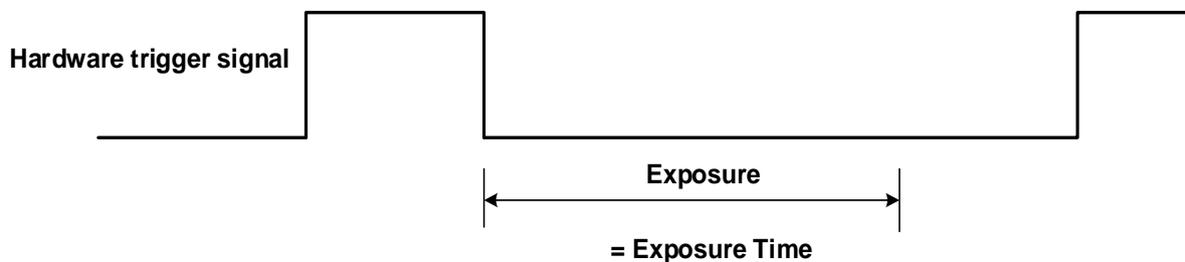

Figure 8-24 The sequence diagram in falling edge trigger of Timed exposure mode
- If falling edge triggering is enabled, exposure starts when the trigger signal falls and continues until the exposure time has expired, as shown in Figure 8-24